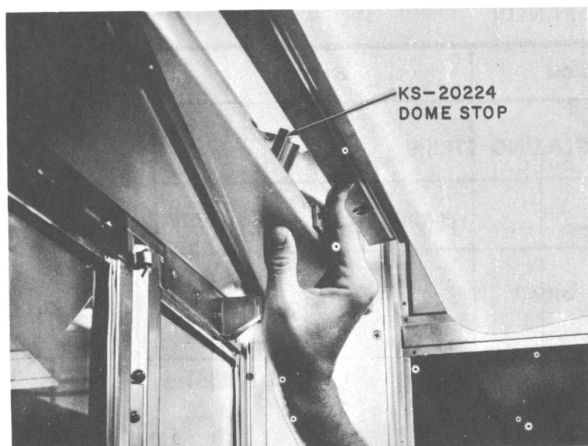

Fig. 5—Releasing Dome Stop
2.10 To lower the dome, push up on dome stop as shown in Fig. 5. After dome is lowered, release the stop.